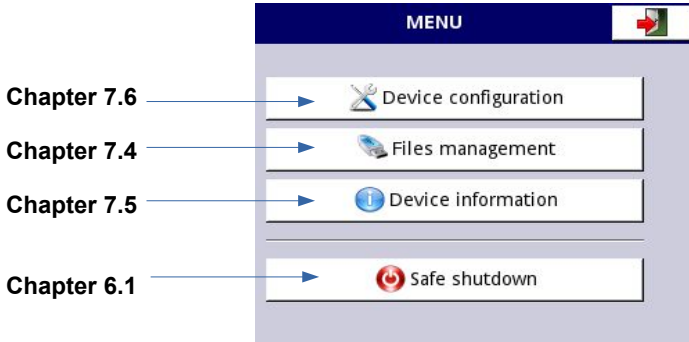

Fig. 7.15. The flowchart for entering characters that are not available from the device menu
1. Start to edit via **Xming** program any device's text setting (**Fig. 7.15 – 2**).
3. Select the text in **Notepad**, copy it (**Ctrl+C** or **Ctrl+Insert**) (**Fig. 7.15 - 1**) and paste it (**Ctrl+V** or **Shift+Insert**) into an appropriate input field visible in **Xming** program (**Fig. 7.15 - 2,3**).
4. The changed text of chosen setting should appear after applying changes in edit window (**Fig. 7.15 – 4**).